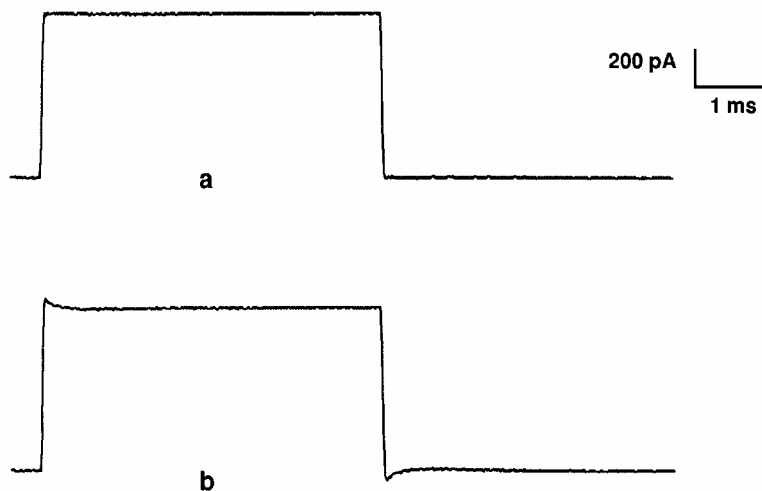

Figure 24. Frequency tuning of whole cell configuration.
- ☐ Adjust RT31 until you get a response which looks like either "trace a" of Figure 24.